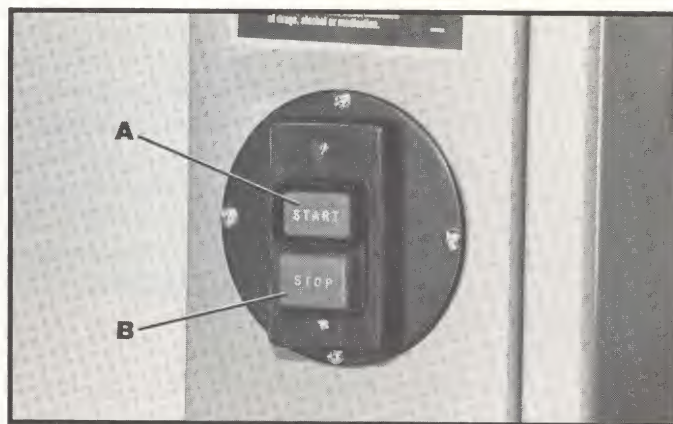

Fig. 7
The start/stop switch is mounted on the bandsaw column for easy accessibility. To start the machine, simply press the start button (A) Fig. 7, and to stop the machine, press the stop button (B).